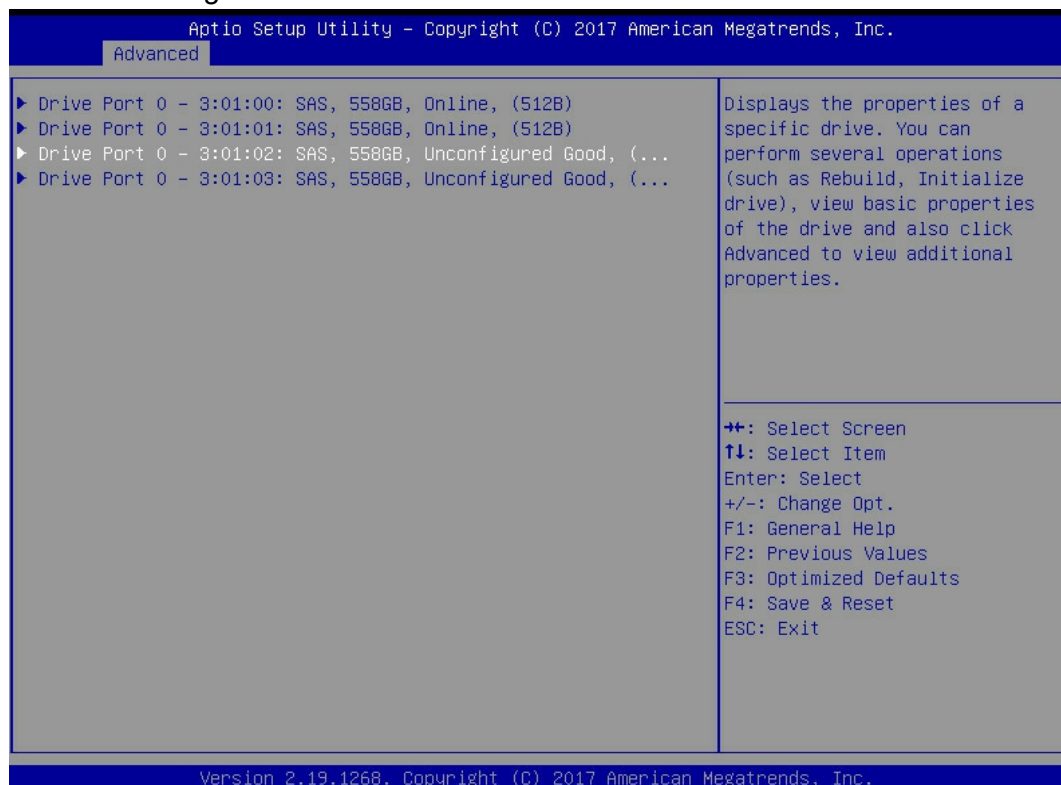

Figure 6-78
b) Enter the interface shown in figure 6-78, select the disk to be erased, and press enter.
✧ Figure 6-78 disk management interface